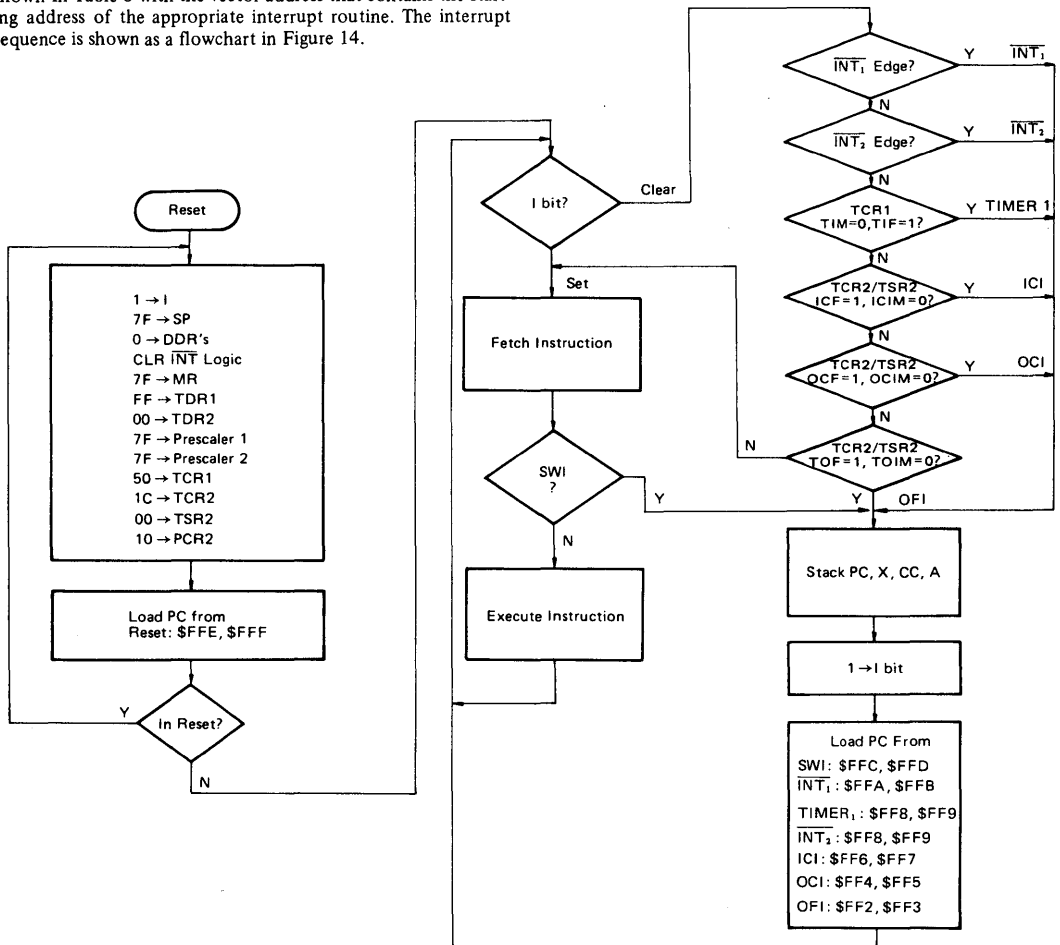

Figure 14 Interrupt Flowchart
The MCU can be interrupted in seven different ways: through external interrupt input pin ( $\overline{INT}_1$  and  $\overline{INT}_2$ ), internal timer interrupt request (Timer 1, ICI, OCI and OFI) and a software interrupt instruction (SWI).  $\overline{INT}_2$  and Timer 1 are generated by the same vector address. When interrupt occurs, processing of the program is suspended, the present CPU state is pushed onto the stack in the order shown in Figure 4. The interrupt mask bit (I) of the Condition Code Register is set and the external routine priority address is achieved from the special external vector address. After that, the external interrupt routine is executed. Stacking the CPU registers, setting the I bit, and vector fetching requires 11 cycles. The interrupt service routines normally end with a return from interrupt (RTI) instruction which allows the CPU to resume processing of the program prior to the interrupt. The priority interrupts are shown in Table 6 with the vector address that contains the starting address of the appropriate interrupt routine. The interrupt sequence is shown as a flowchart in Figure 14.